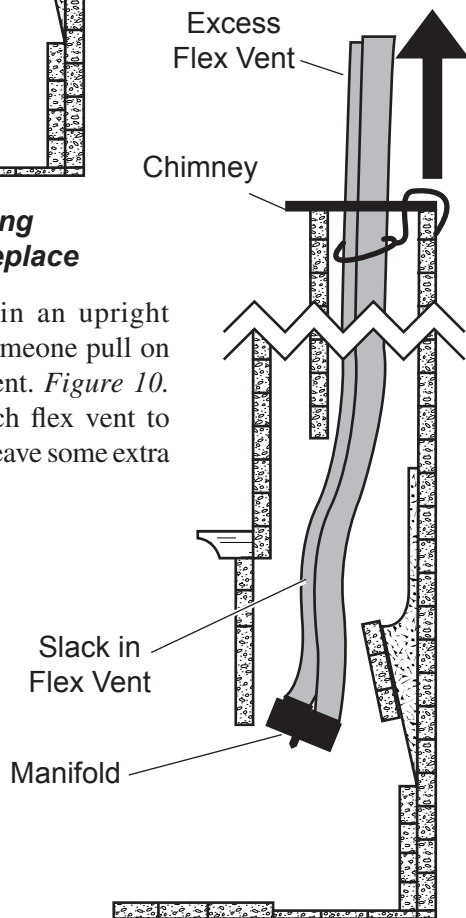

Figure 10 - Pulling On Excess Flex Vent
5. Place manifold in an upright position. Have someone pull on the excess flex vent. Figure 10. Temporarily attach flex vent to top of chimney. Leave some extra slack in flex vent.